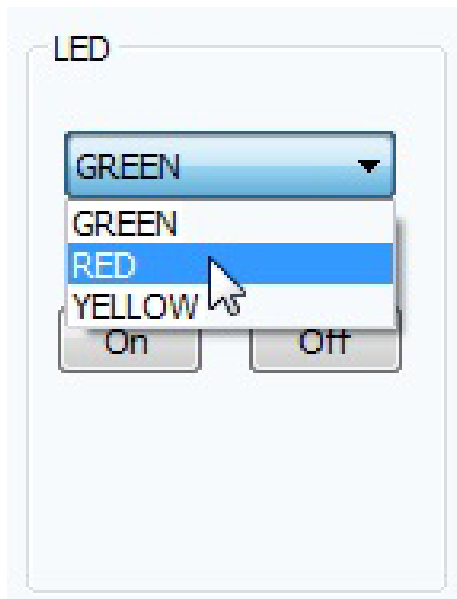

Figure 4-9 LED Selection
3. Select the desired LED from the list, defined on the *Scanner Actions* tab (see Figure 4-9 on page 4-16).
NOTE The <scannerID> tag in the XML is filled with the scanner ID selected in the *Connected Scanners* list of the sample application. The <arg-int> tag in the XML is filled with the corresponding action value to turn on or off the LED selected from the drop-down list shown in Figure 4-9.